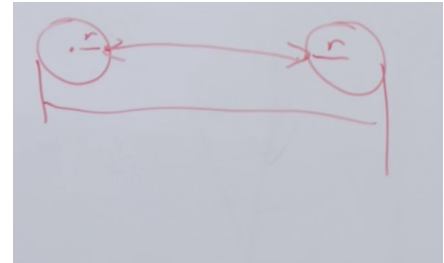

Figure 1.2
- For **inside-to-inside**, measure between inner edges and add both radii (or one diameter) (see Figure 1.2).
- For **outside-to-outside**, measure outer edges and subtract the radii. These methods ensure precise spacing without estimating center points (see Figure 1.2).